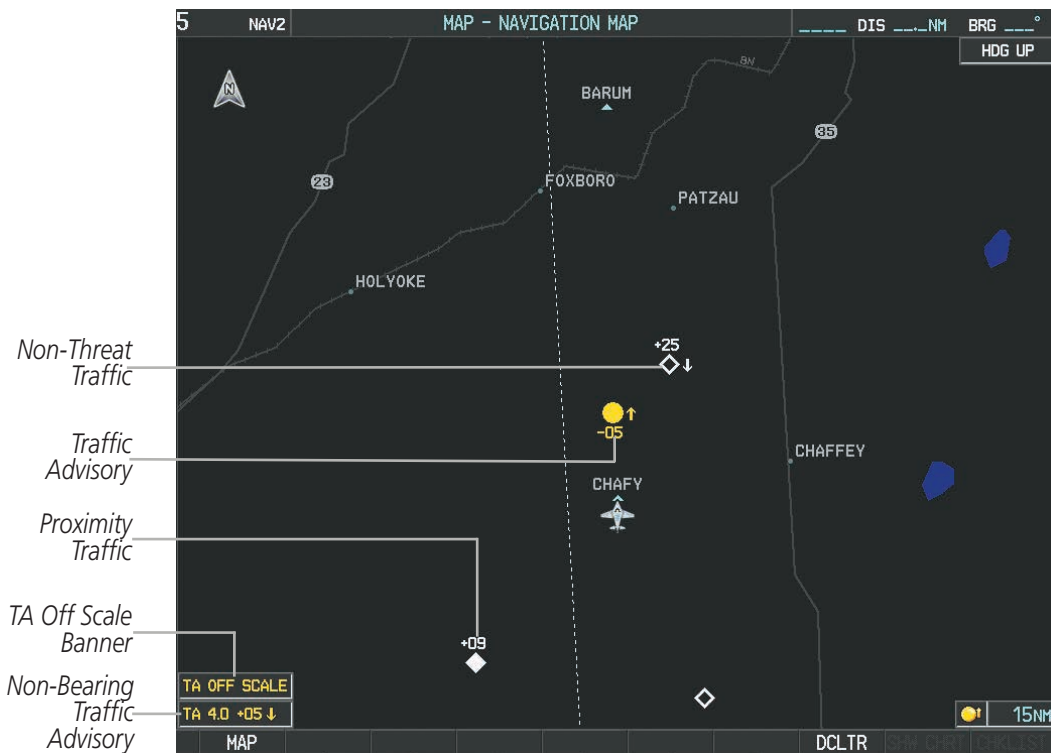

Figure 6-140 TAS Traffic on Navigation Map
- 2) Select the **TRAFFIC** Softkey. Traffic is now displayed on the map as shown in Figure 6-140.